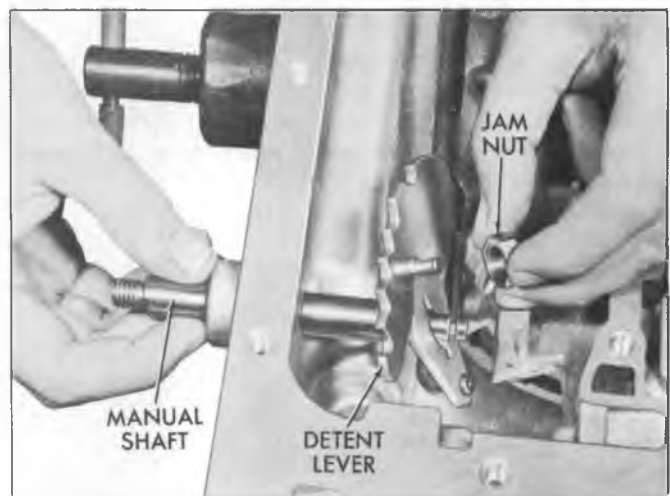

Fig. 25T--Removing Detent Lever and Jam Nut from Manual Shaft
- c. Remove manual shaft and jam nut from case (fig. 25T).